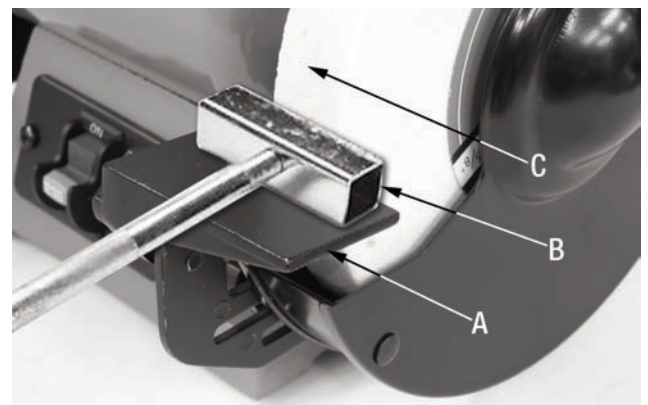

FIGURE 9
1. Ensure the tool rest (A) Fig.9 is positioned horizontally, with a 1/16" distance from the grinding wheel.
3. Firmly grip the diamond wheel dressing tool (B) Fig.9 and lay it flat on the tool rest. Slowly move the diamond wheel dressing tool forward, until it begins to touch the grinding wheel (C).